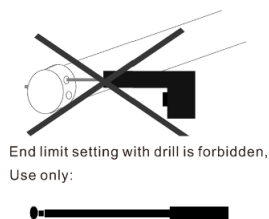
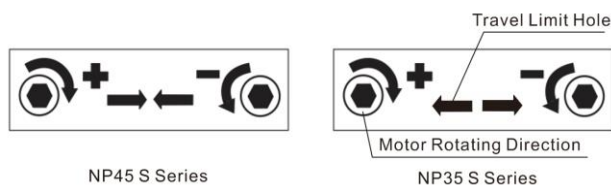

Fig.4
Fig 5
2. According to the motor's rotating direction and the adjusting instruction, Insert travel limit pole into its travel limit hole to adjust limit travel(end limit setting with drill is forbidden(Fig.4)): the direction of "+" will increase the shutter's travel; the direction of "-" will reduce the shutter's travel. (Fig.5)